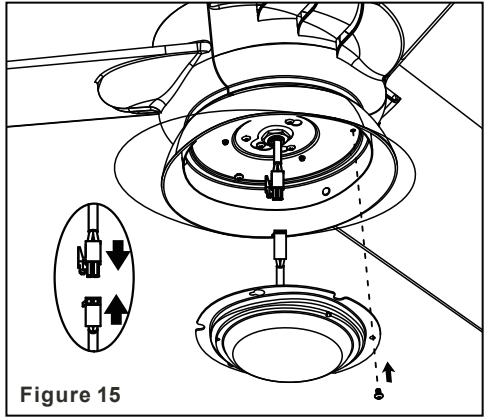

Figure 15
- Step 1.** Hold the light kit close to the switch housing and securely attach the 2-pin connectors. **Step 2.** Tuck the connections neatly into the light kit. Align three round holes on the light kit and switch housing. Securely tighten with 3 screws (Fig.15)